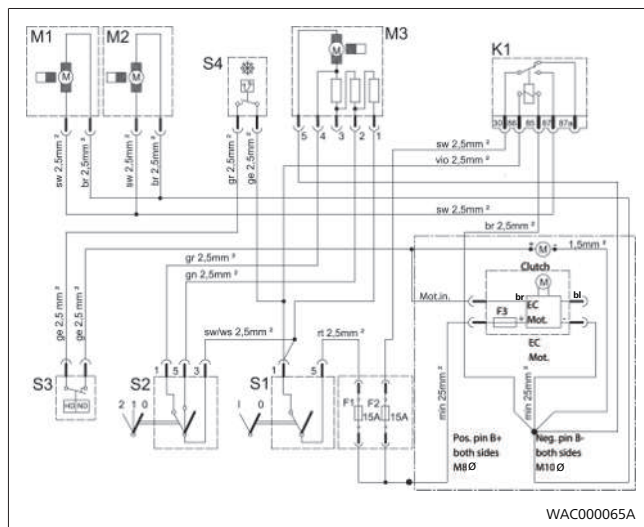
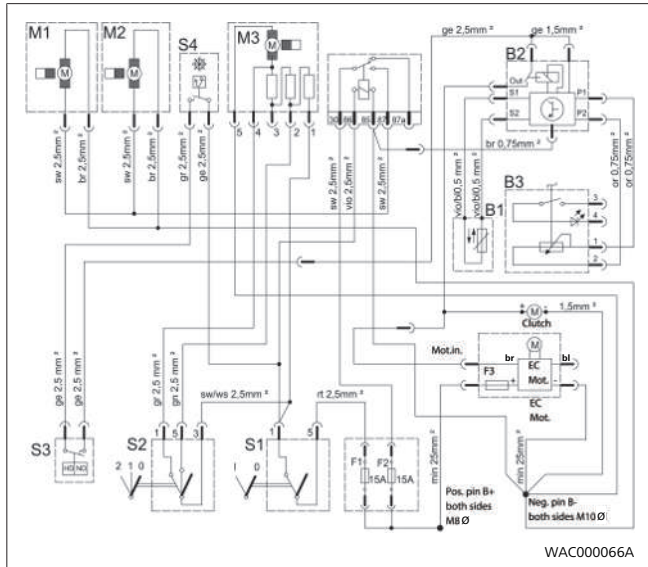

Fig. 3 Circuit diagram of E-unit version with roof-top AC system CC5
Fig. 4 Circuit diagram of deluxe version
The electrical connection of the units is to be made as shown in the circuit diagrams in Fig. 3 and Fig. 4 .
The E-unit CC5 is equipped with a battery discharge protection circuit. The system is automatically switched off if the power supply drops below 20 V for longer than 10 s. It can be started up again by switching it on. If you only want the system to operate when the ignition is on, please connect the air-conditioning system on/off switch to terminal 15 (see circuit diagrams in Fig. 3 and Fig. 4).
The system should only be operated when the engine is running. To this end, please install a NO contact relay and connect this via terminal D+/61 on the generator. (See circuit diagrams in Fig. 3 and Fig. 4.)
- Electrical connecting cables and elements (on the vehicle) (see Fig. 3 or Fig. 4)
- ▶ Only use cables approved for use in motor vehicles with an adequate cross-section (see Fig. 3 and Fig. 4).